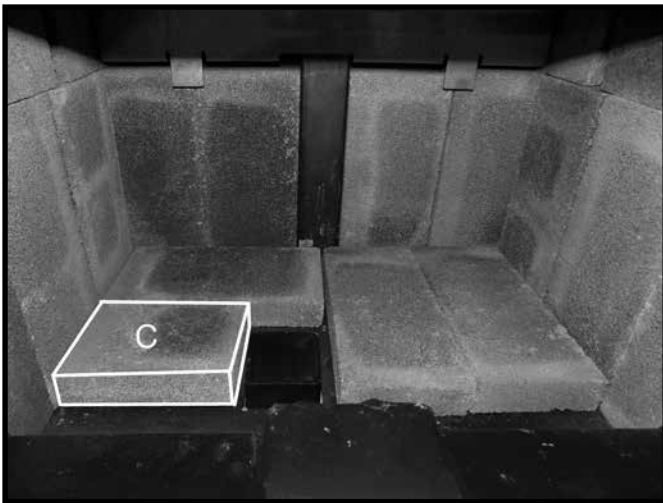

Figure 34: Fourth floor brick in place.
- Place the "C" firebrick so that it sits beside the ash dump, against the left-hand side wall and the "A" firebrick located directly behind the ash dump (Figure 34). on page 29